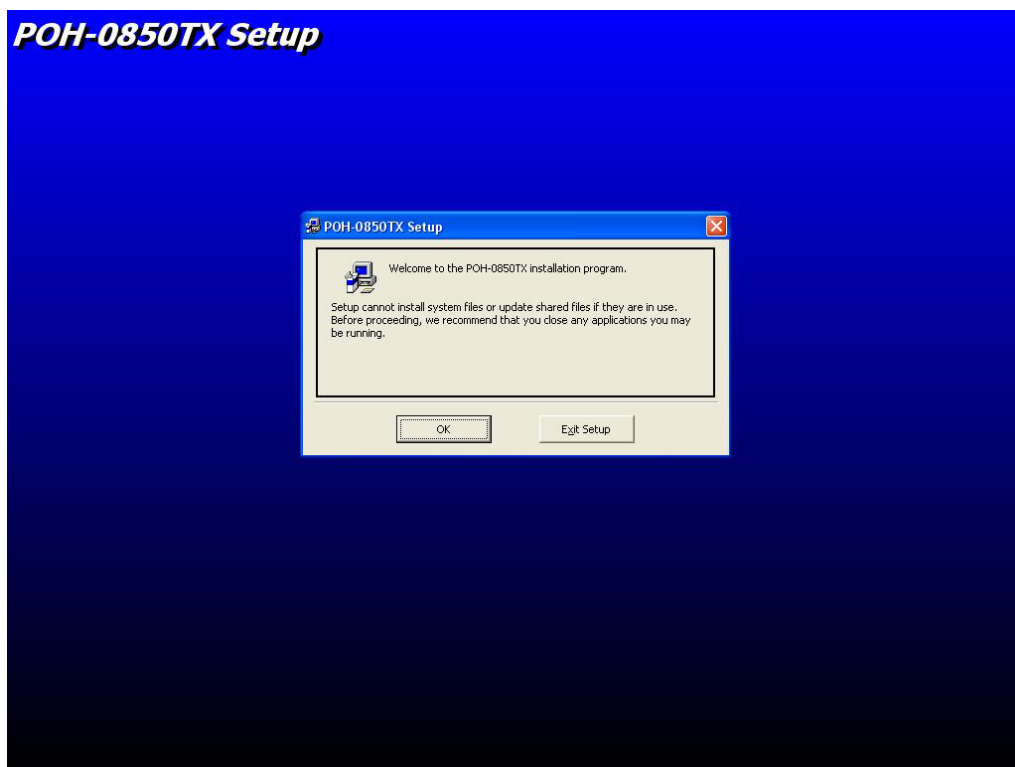

Figure 3-1
4. Then, click the "OK" button to go next step. See Figure 3-1.